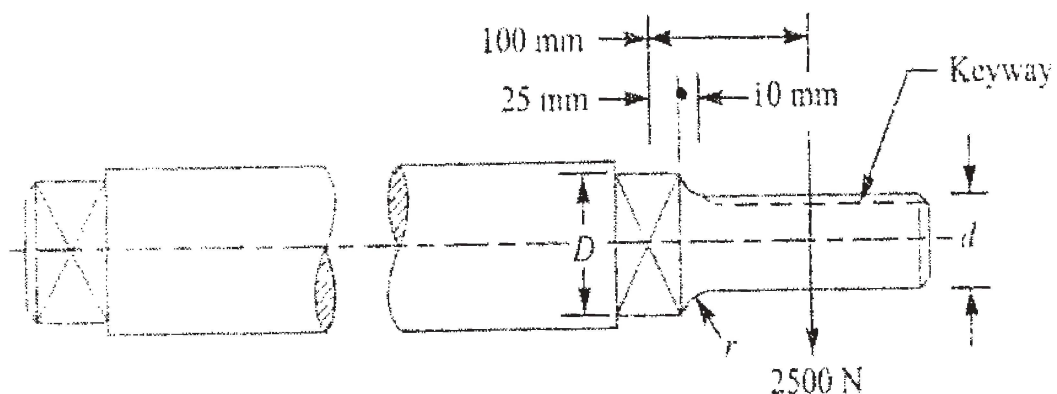

Figure 2
- b) A centrifugal blower rotates at 600rpm. A belt drive is used to connect the blower to a 15kW and 1750 rpm electric motor. The belt forces a torque of 250N-m and a force of 2500N on the shaft. Figure 2 shows the location of bearings, the steps in the shaft and the plane in which the resultant belt force and torque act. The ratio of the journal diameter to the overhung shaft diameter is 1.2 and the radius of the fillet is $1/10^{th}$ of overhung shaft diameter. Find the shaft diameter, journal diameter and radius of fillet to have a factor of safety 3. The blower shaft is to be machined from hot rolled steel having the following values of stresses: